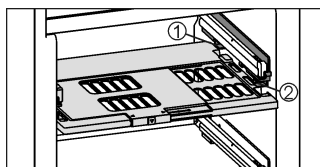

Fig. 9
- To insert the humidity control plate: Insert the guide pieces of the plate into the rear retainer Fig. 9 (1) from below, then snap the plate into the retainer Fig. 9 (2) in the front.